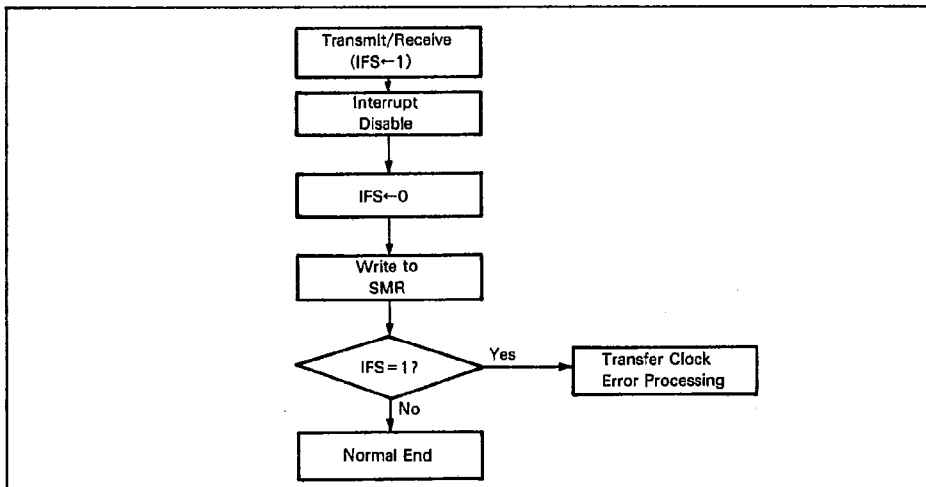

Figure 12. Transfer Clock Error Detection Example
**Transfer Clock Errors Detection Example:** The serial interface functions abnormally when the transfer clock is disturbed by external noises. Transfer clock errors can be detected by the procedure shown in figure 12.